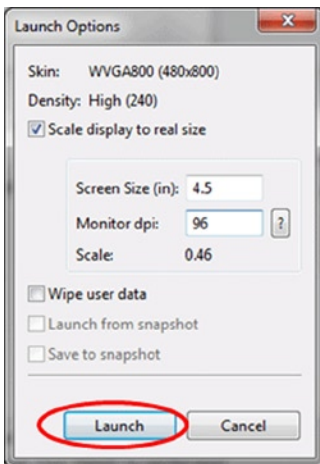

Figure 8-9. Virtual Device Launch Options
12. The Launch Options window should appear. Select the screen size and DPI for your system. Otherwise, the emulator might exceed the dimensions of your viewing screen. Click the Launch button (see Figure 8-9).